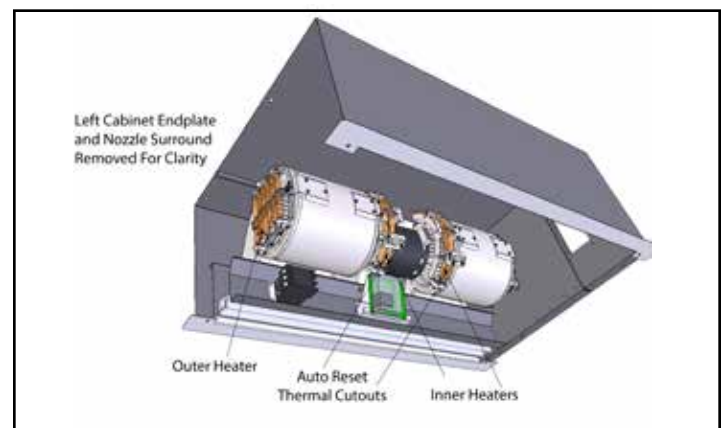

Figure 7
6. If the unit has electric heat, the heaters need to be disconnected from supply wiring. Each fan housing will have a heating element on both of its sides, spanning the inlet venturi. Each heating element will have (2) ¼" quick disconnects for power supply wiring. In addition, the heating elements located on the inside of the module will have (2) ¼" quick disconnects for the auto reset thermal cutouts. Label and separate all of those connections. **See Figure 7.**
4. Label and detach the connections for supply power and for the auto reset thermal cutouts located on both inner heaters. **See Figure 7.**